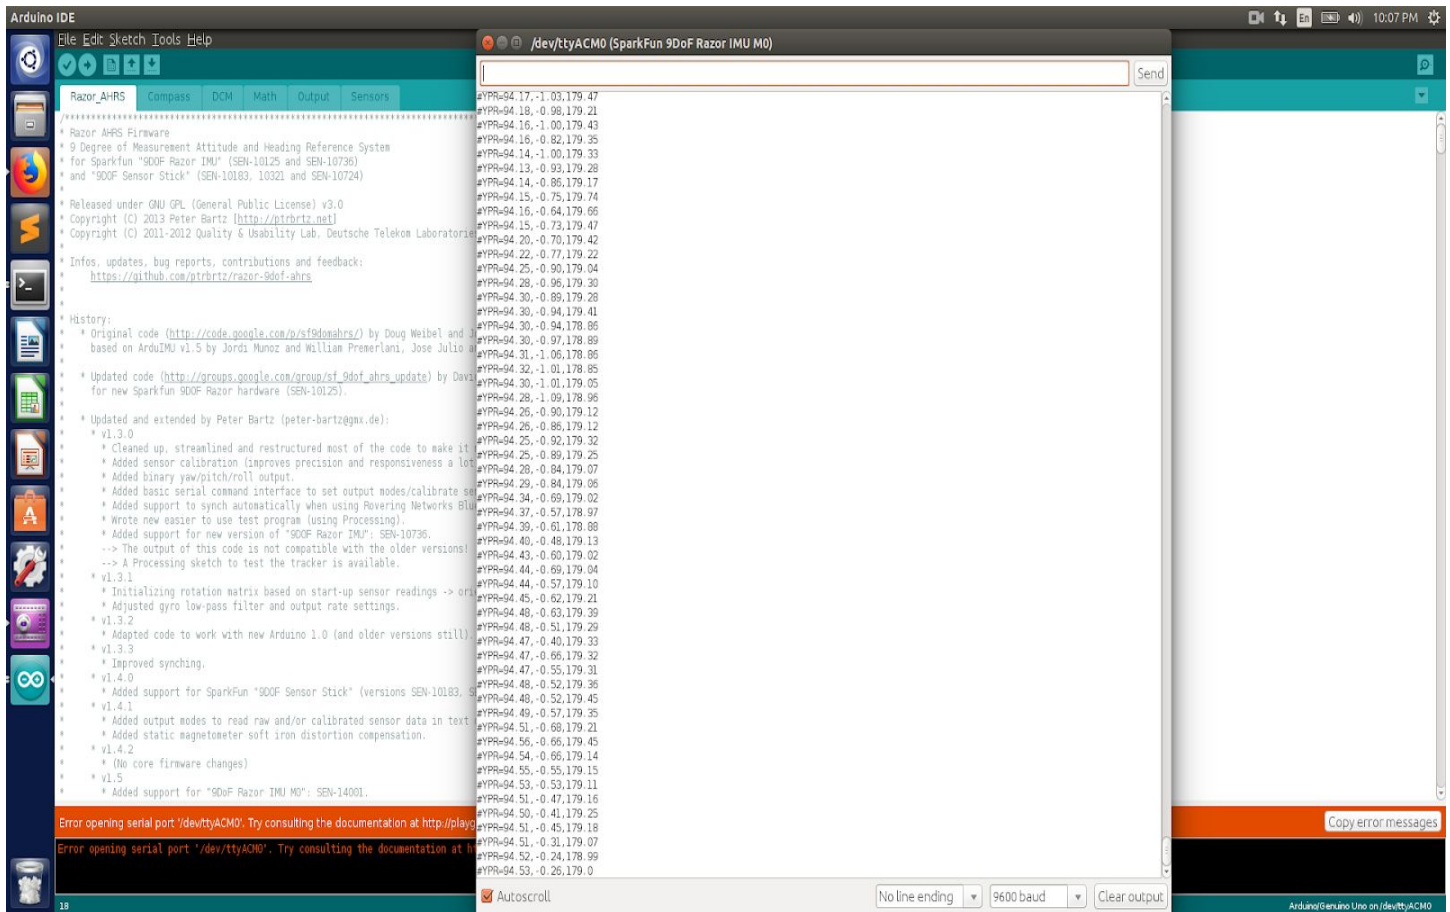

Fig 1 : YPR values read from IMU on Arduino
- 1) Connected the IMU with the arduino. This IMU can give readings directly to the serial monitor in Arduino (as shown in Fig 1), without using Arduino Board. I just had to install the Sparkfun 9dof razor and the libraries for that.